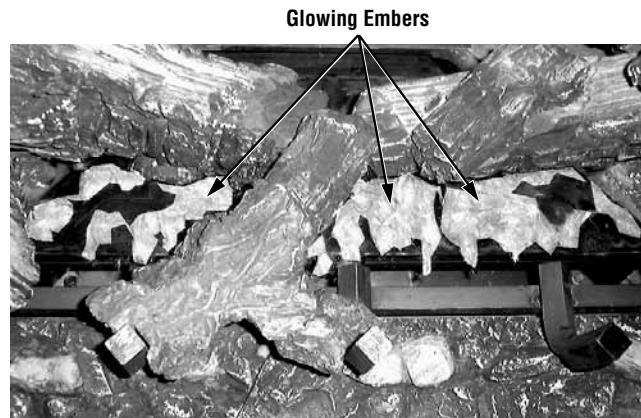

Figure 71
Step 3. Separate the Glowing Ember (Rockwool) into pieces about the size of a quarter (**Figure 72**). Keep the pieces fluffed up, not matted. Distribute these pieces over the front surface of the burner, as shown in **Figure 71**. Do not use more than is necessary. When properly positioned, the Glowing Embers will cover approximately 65% of the front burner and with no appreciable gaps or openings. Ensure that the main burner ports remain uncovered by the ember material.